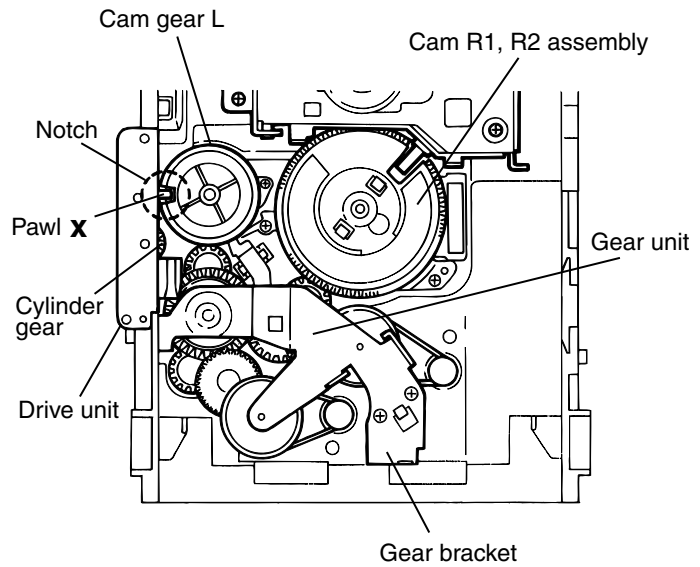

Fig.23
**[Caution]** To reassemble the cylinder gear, etc.with the cam unit (cam gear and cans R1/R2 assembly), gear unit and drive unit, align the position of the pawl "x" on the drive unit to that of the notch on the cam gear "q". Then, make sure that the gear unit is engaged by turning the cam gear "q" (See Fig. 23).